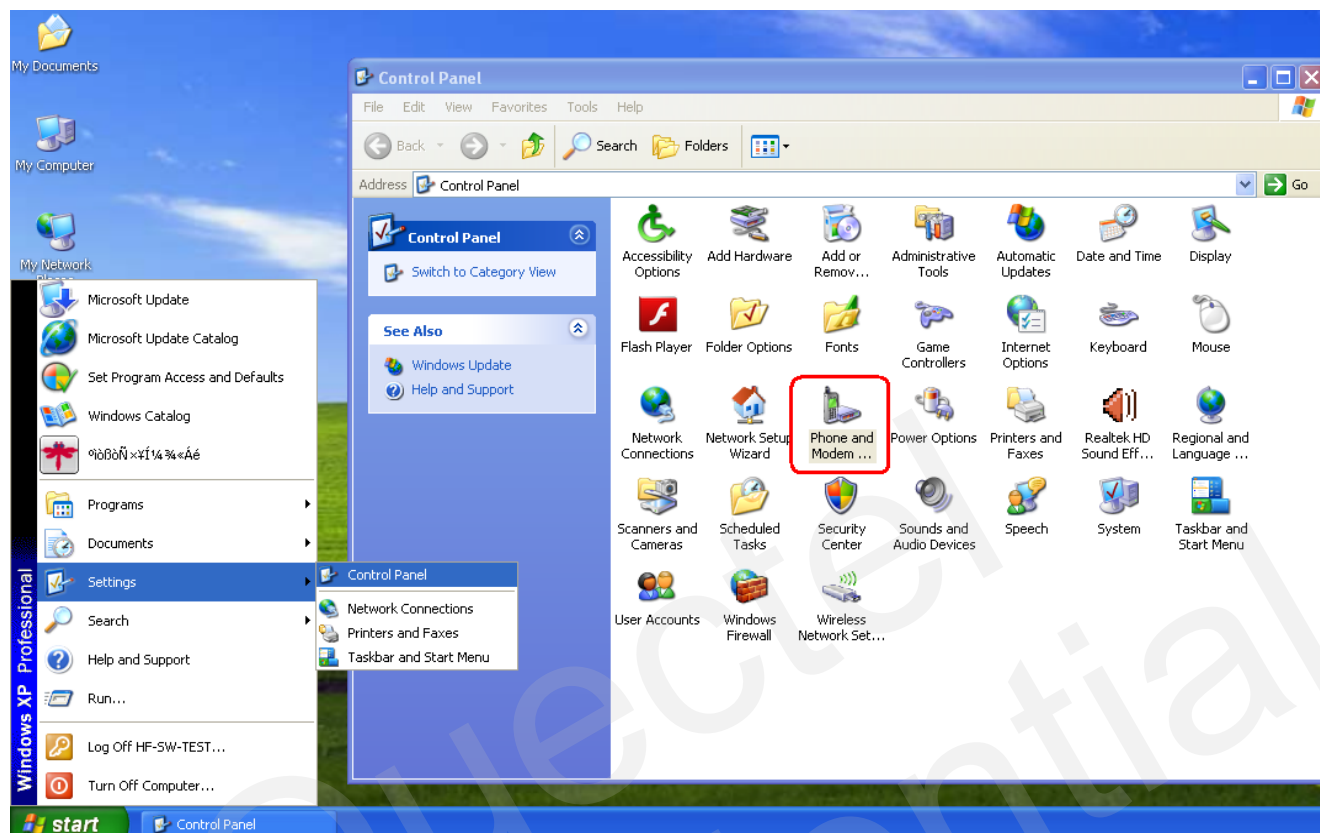

Figure 4: Phone and Modem Options
1. Click button **“Start”** -> **“Settings”**-> **“Control Panel”** -> **“Phone and Modem Options”**. Please refer to Figure 4.